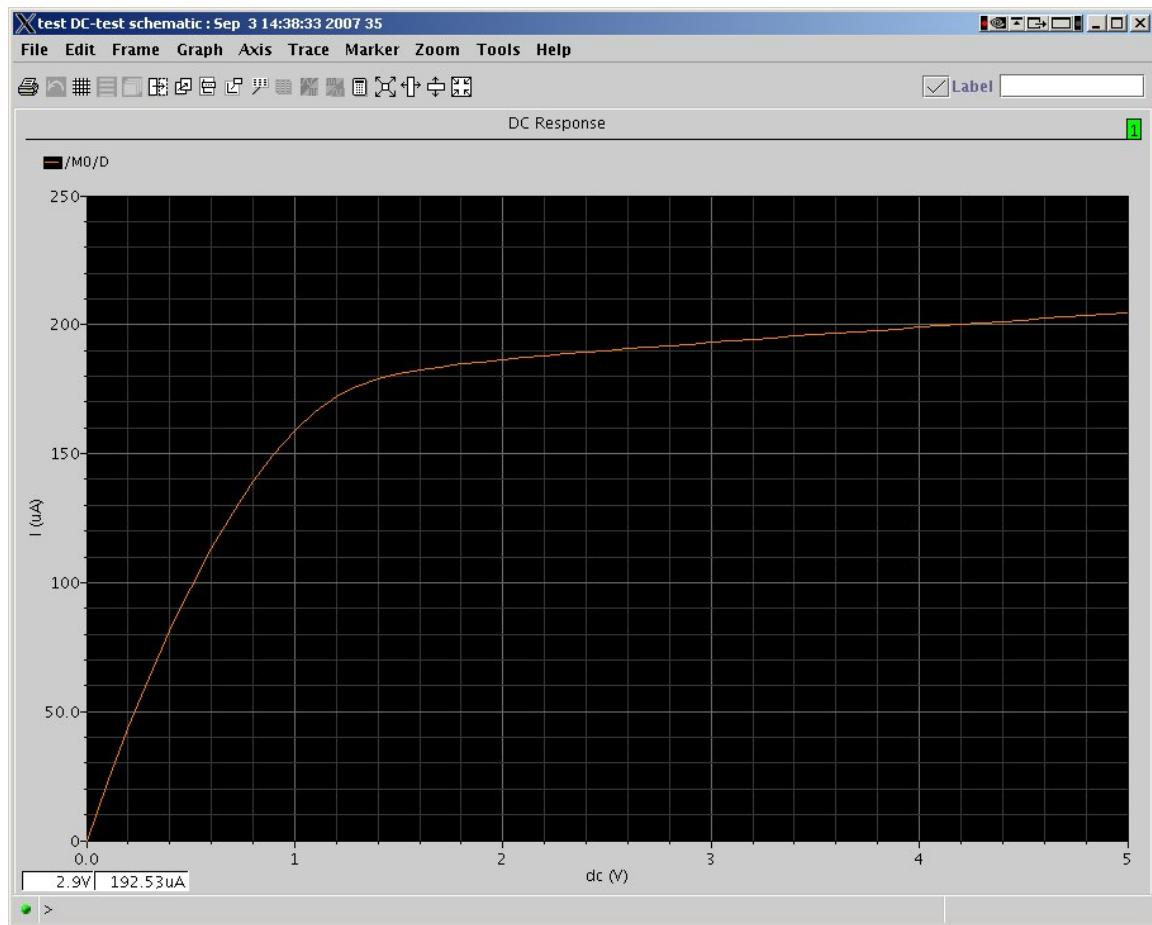

Figure 6.33: DC analysis output waveform for a single set of parameters
8. Now run the simulation. You should get a waveform output like Figure 6.33 that has a single  $I_{ds}$  curve for a 3v gate voltage ( $V_{gs}$ ) and a DC sweep from 0v to 5v on  $V_{ds}$ .